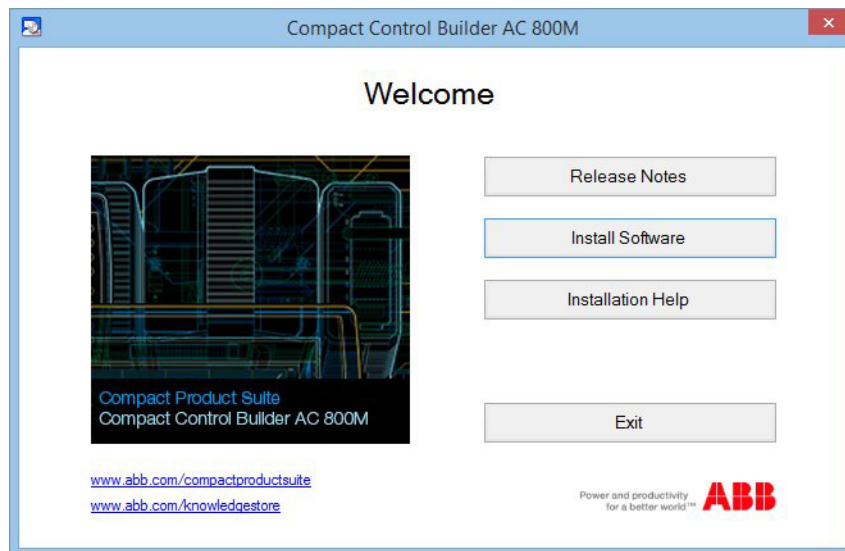

Figure 10. The Welcome dialog of the installation process
2. Insert the DVD into the drive. After a few seconds the Welcome dialog appears as shown in Figure 10. If the dialog does not appear, start the file *Startme.bat*, located in the root directory of the DVD.